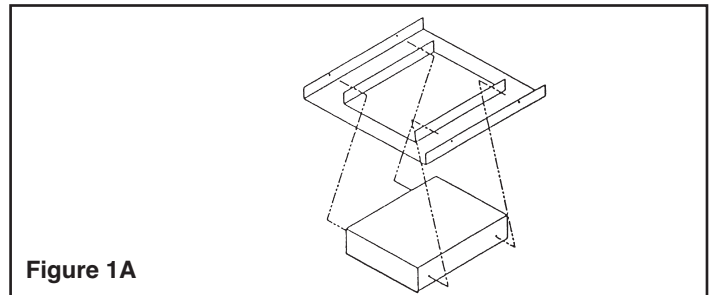

Figure 1A
4. Mount the heater backbox to the HTBF kit frame using the four screws provided. Refer to figure 1A.